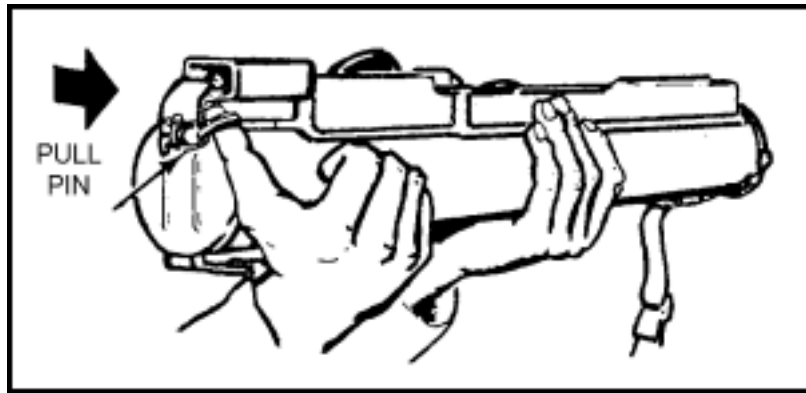

Figure 2-15. Removing the pull pin.
(1) Remove the pull pin and rotate the rear cover downward so the front cover and adjustable sling assembly can fall free (Figures 2-15 and 2-16). Do not discard the sling assembly until after you fire the rocket.